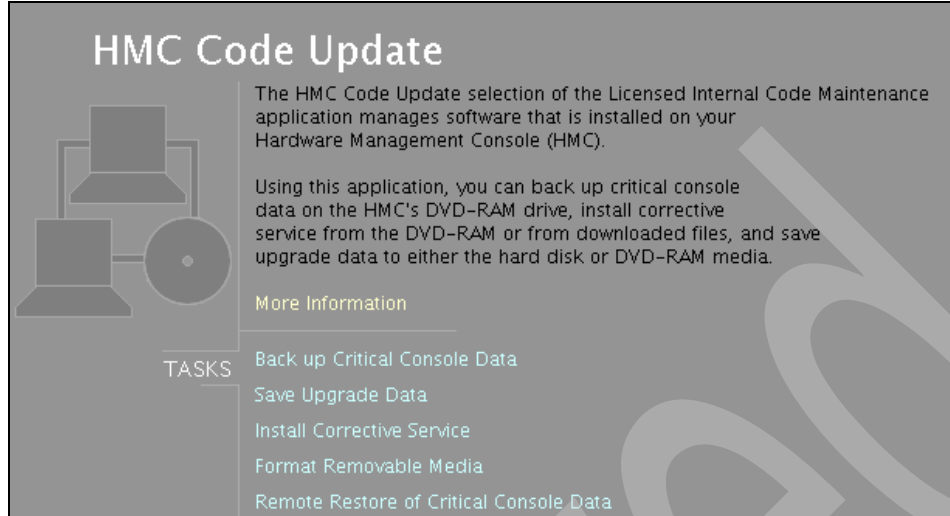

Figure 9-42 Back up Critical Console Data window
3. In the Contents area, select **Back up Critical Console Data** (Figure 9-42).